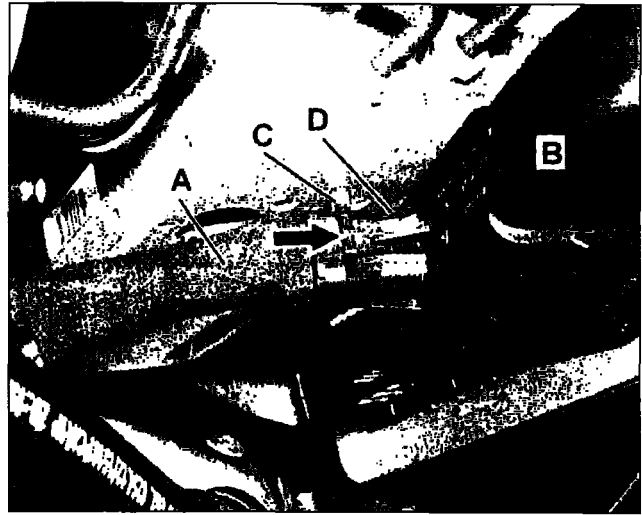

Figure 12
14. Secure the SBC wiring harness (A, Figure 12) (**excluding** the ground wiring harness) to the SBC connector cover harness receptacle (D) using a new cable tie (arrow).
- Ensure that the SBC wiring harness (A) is properly routed so that it is free of tension in the SBC connector housing.
- The cable tie “buckle” (C) **must be located outside of the connector cover harness receptacle (D) as depicted.**